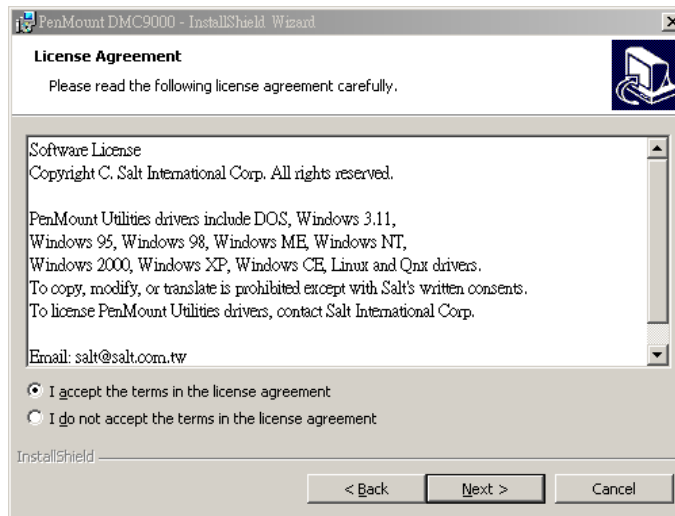

Figure 6-25: License Agreement
Step 3: The license agreement shown in **Figure 6-25** appears. Agree to the license by selecting “I accept the terms in the license agreement”.